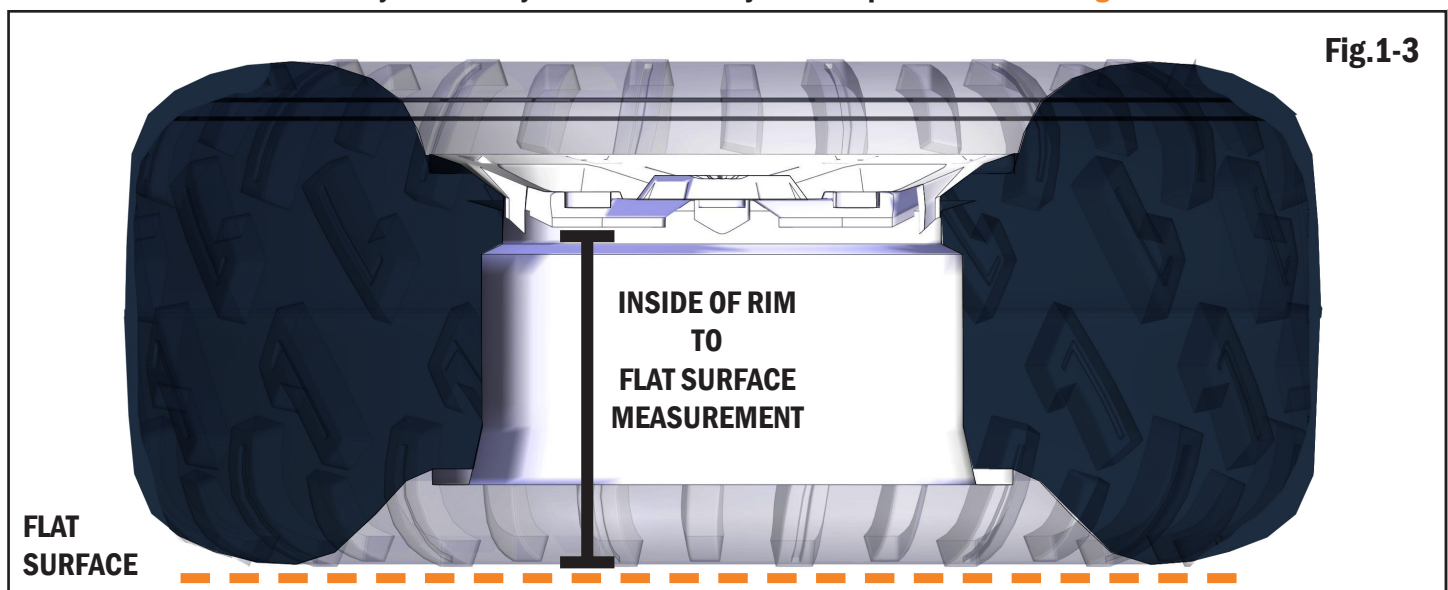

Fig.1-3
- Measure from the flat surface to the bottom edge of the wheel's central bore. This is the minimum length you will need to have in order to mount your tire to your "IT FITS™" Adjustable Spare Tire Mount. Fig. 1-3